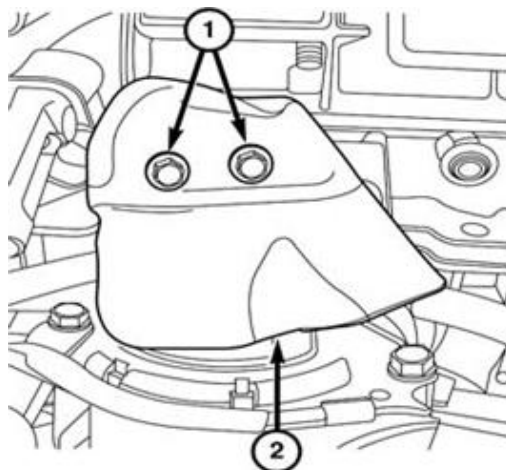

Figure 36 – Left Engine Mount Heat Shield
76. Remove bolts (1) and the heat shield (2) from the left engine mount (Figure 36).